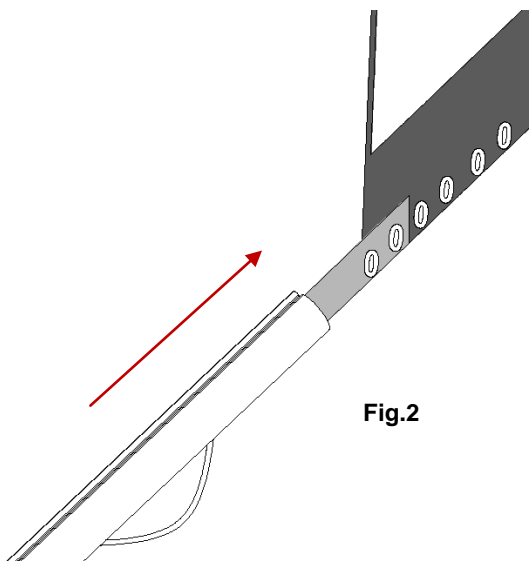

Fig.2
4. Insert and fasten all the buttons along the top and bottom of the *screen material (G)*, listening for a "snap" when attaching the buttons to insure they are secure. To insure they are secure, also give the buttons a slight tug, tap, or flick before proceeding.
5. Two people are suggested for this step. While the screen remains laying on a flat surface, one person guides the support bars, while another slowly and carefully slides it over the material as shown in **Fig. 2** and **3**.